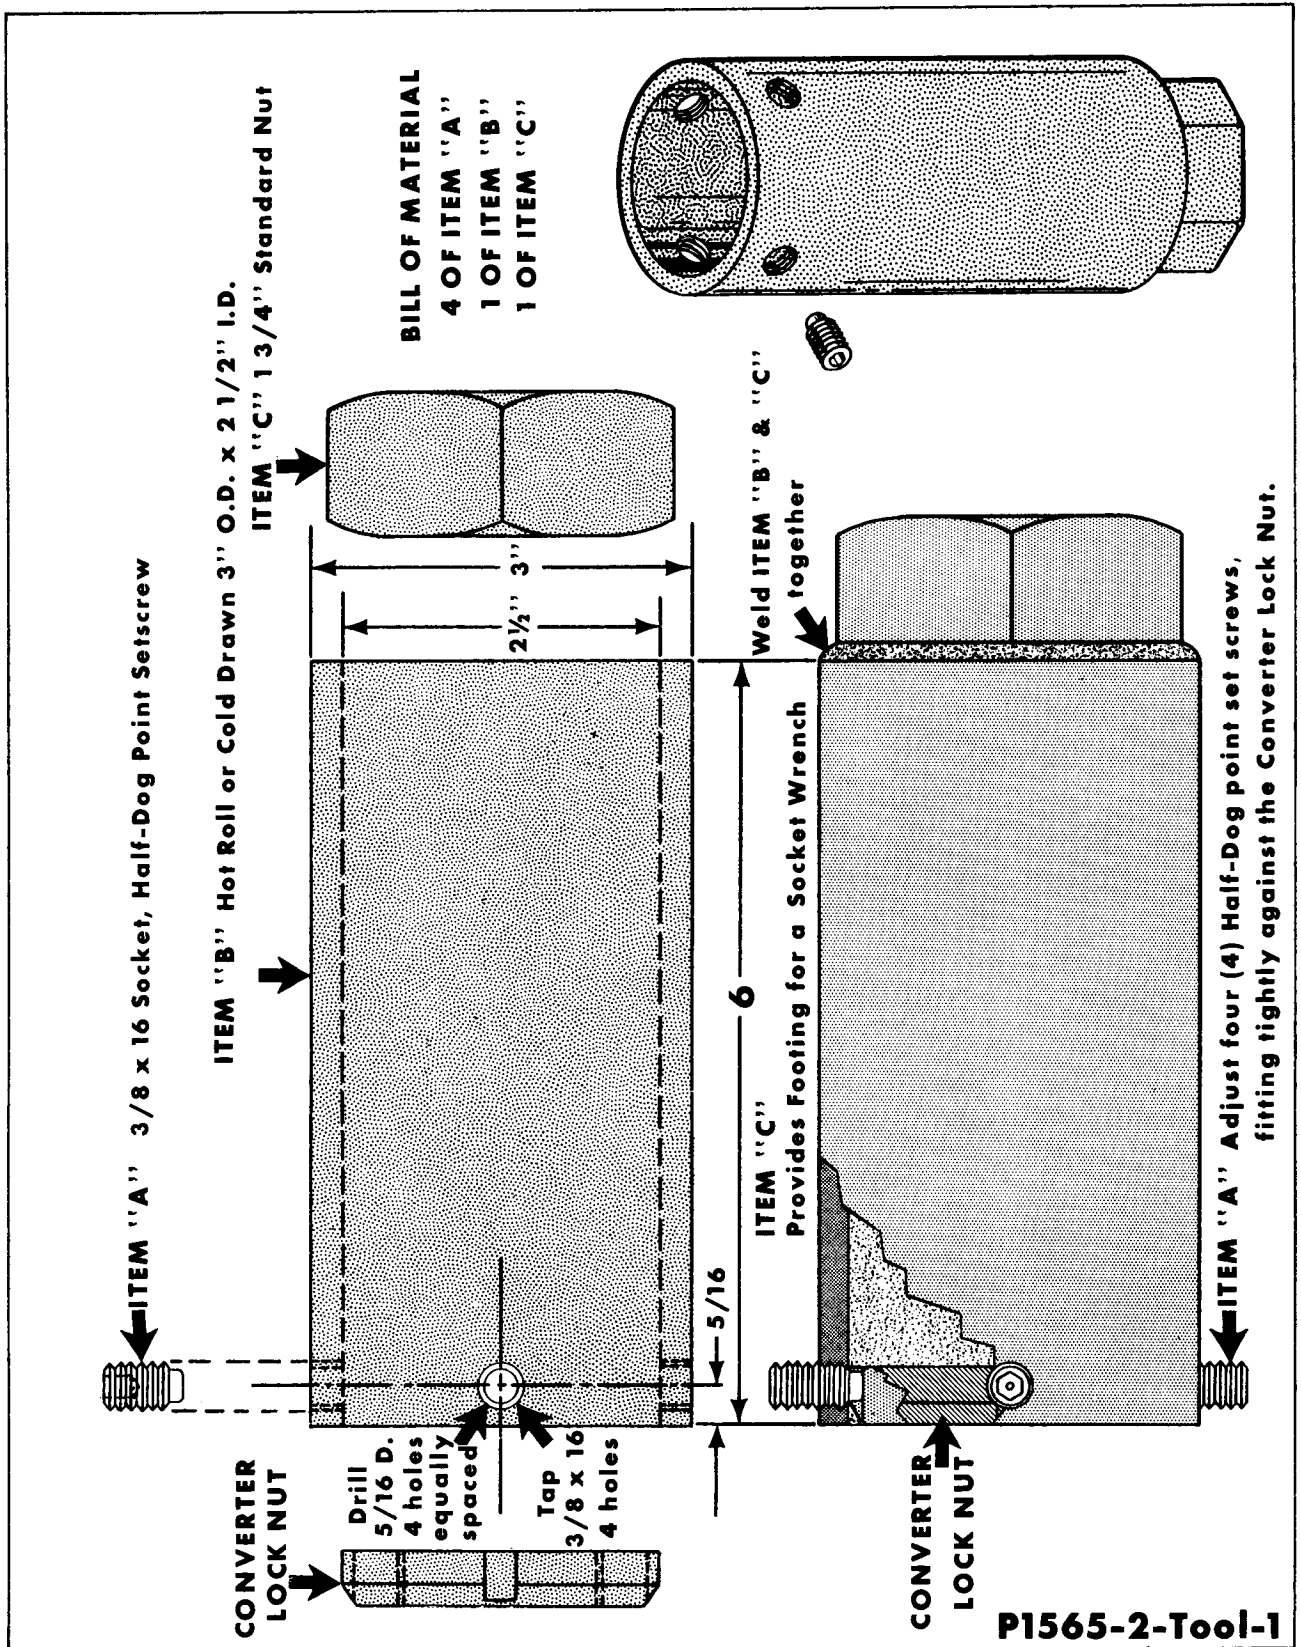

Figure 2-Tool-1 Lock Nut Wrench
- d. Locknut wrench (refer to Figure 2-tool-1, page II-3A).